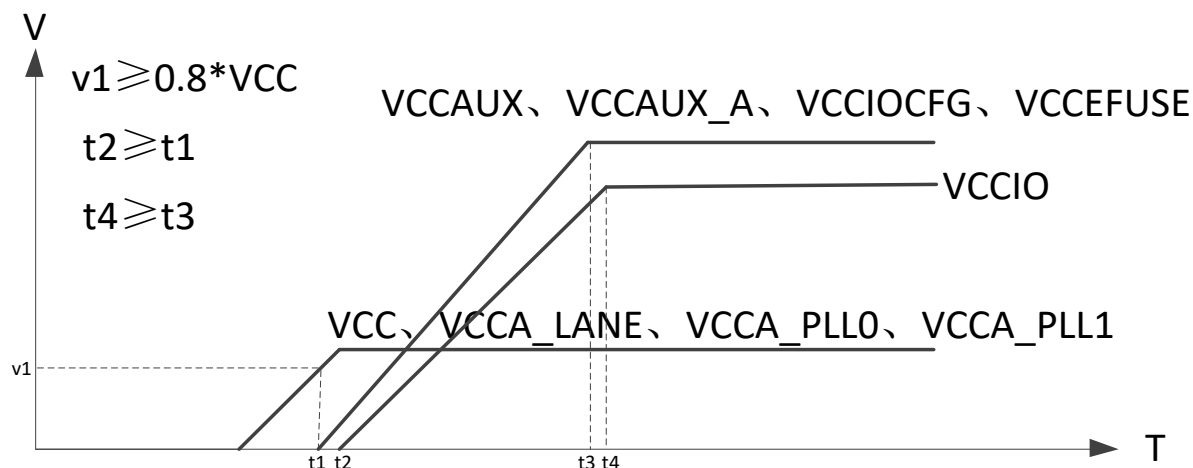

Figure 2-1 Recommended Power-up Timing
3. Recommended power-up timing is shown in Figure 2-1;